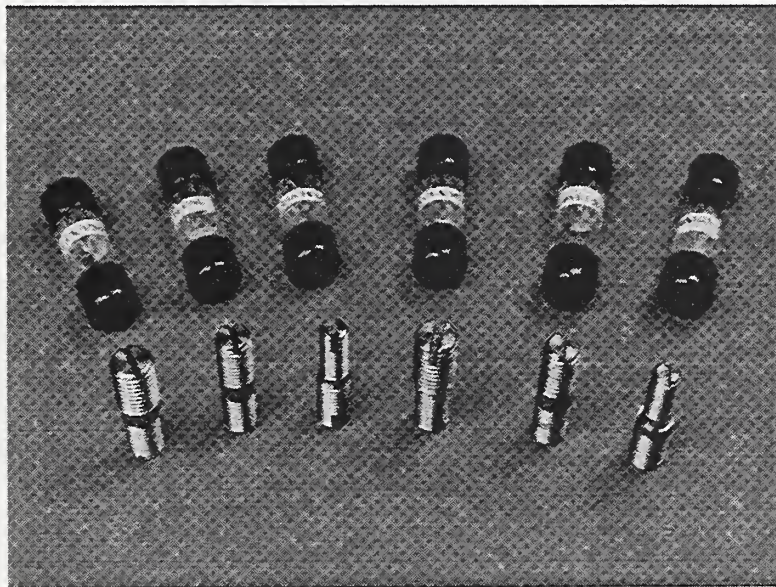

Figure 5. Threaded stud adapters (six available sizes)
- 1 ** threaded stud adapter (to attach the ITA to the table) (Figure 5)